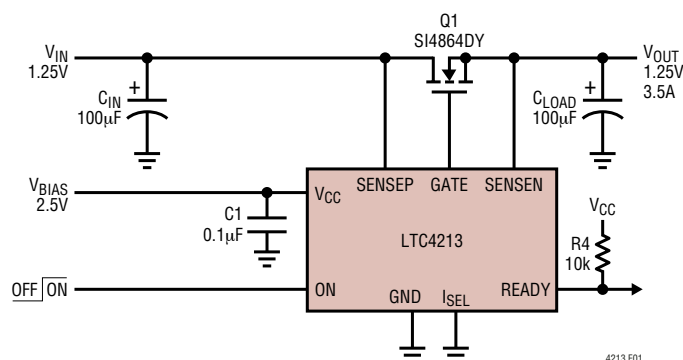
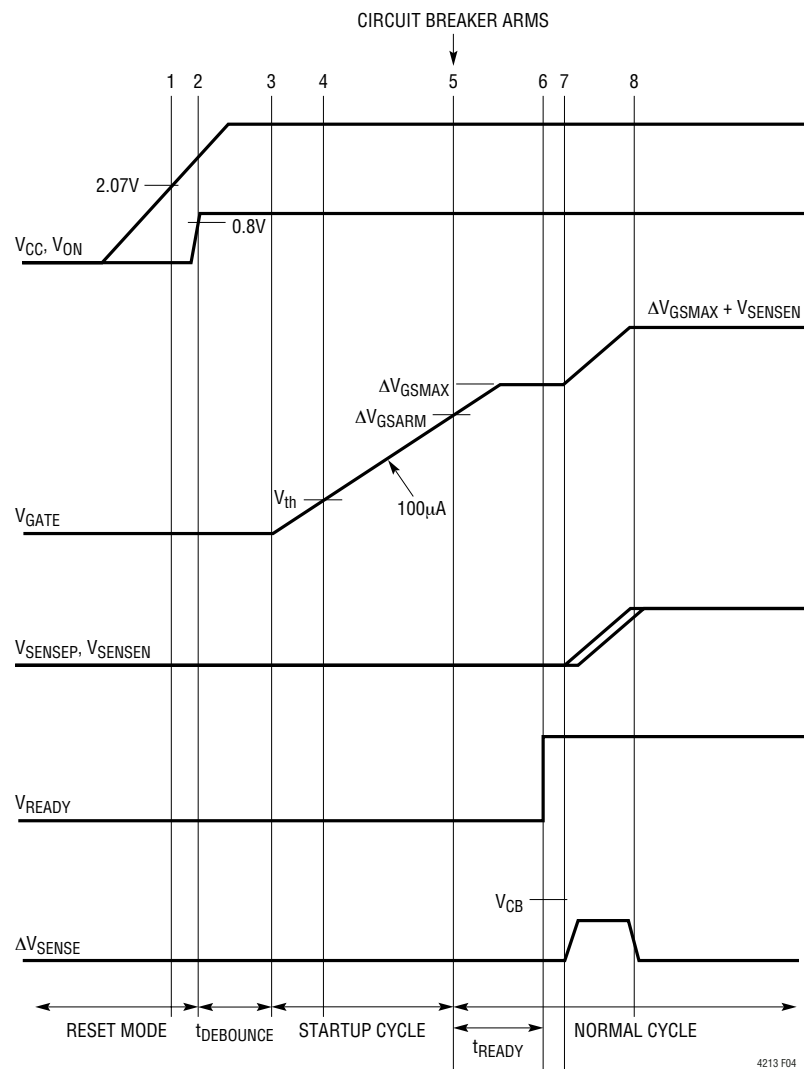
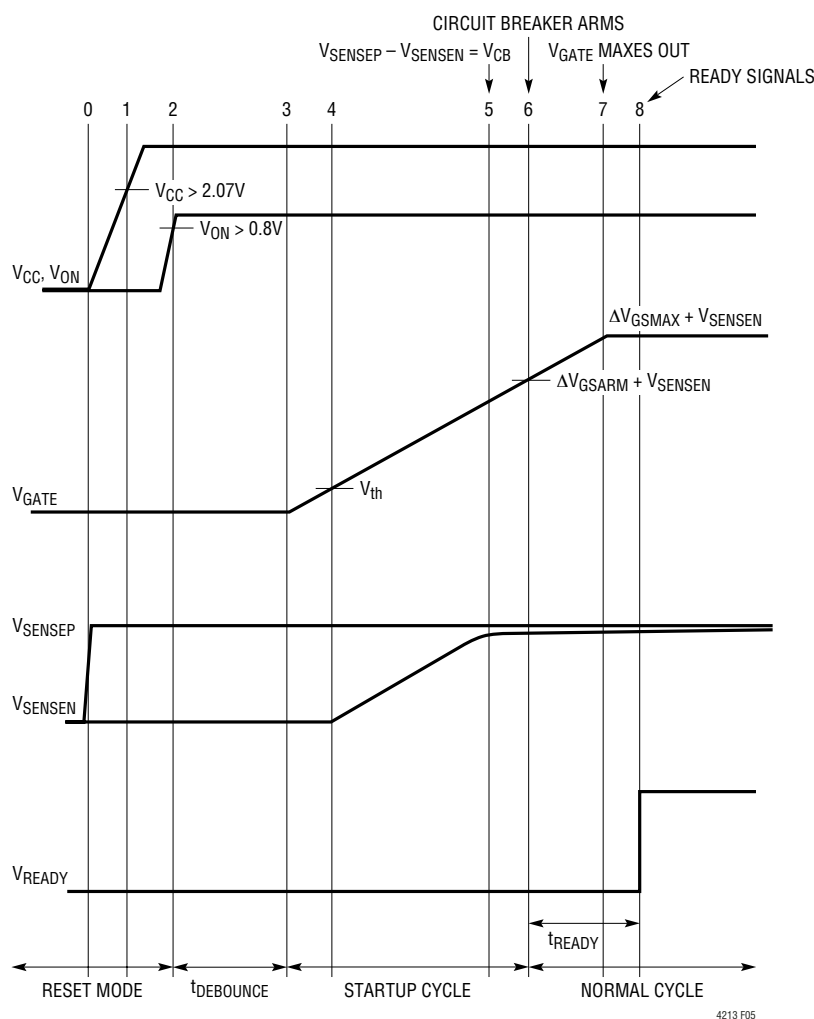

Figure 1. LTC4213 Electronic Circuit Breaker Application
Figure 4. Load Supply Power-Up After Circuit Breaker Armed
Figure 5. Load Supply Power-Up Before V_{CC}
Figure 1 shows an electronic circuit breaker (ECB) application. An external auxiliary supply biases the V_{CC} pin and the internal circuitry. A V_{IN} load supply powers the load via an external MOSFET. The SENSEP and SENSEN pins
Figure 4 shows a normal power-up sequence for the circuit in Figure 1 where the V_{IN} load supply power-up after circuit breaker is armed. V_{CC} is first powered up by an auxiliary bias supply. V_{CC} rises above 2.07V at time point 1. V_{ON} exceeds 0.8V at time point 2. After a 60 μs debounce delay, the GATE pin starts ramping up at time point 3. The external MOSFET starts conducting at time point 4. At time point 5, V_{GATE} exceed $\Delta V_{\text{GS(ARM)}}$ and the circuit breaker is armed. After 50 μs (t_{READY} delay), READY pulls high by an external resistor at time point 6. READY signals the V_{IN} load supply module to start its ramp. The load supply begins soft-start ramp at time point 7. The load supply ramp rate must be slow to prevent circuit breaker tripping as in equation (8).
Referring back to Figure 1, the V_{IN} load supply can also be powered up before V_{CC} . Figure 5 shows the timing diagram with the V_{IN} load supply active initially. An internal circuit ensures that the GATE pin is held low. At time point 1, V_{CC} clears UVLO and at time point 2, ON clears 0.8V. 60 μ s later at time point 3, the GATE is ramped up with 100 μ A. At time point 4, GATE reaches the external MOSFET threshold V_{TH} and V_{OUT} starts to ramp up. At time point 5, $V_{SENSEIN}$ is near its peak. At time point 6, the circuit breaker is armed and the circuit breaker can trip if $\Delta V_{SENSE} > V_{CB}$.
There is no current limit monitoring during output charging for the figure 5 power-up sequence where the load supply is powered up before V_{CC} . This is because the GATE voltage is below ΔV_{GSARM} and the MOSFET may not reach the specified $R_{DS(ON)}$. The V_{IN} load supply should have sufficient capability to handle the inrush as the output charges up. For proper startup, the final load at time